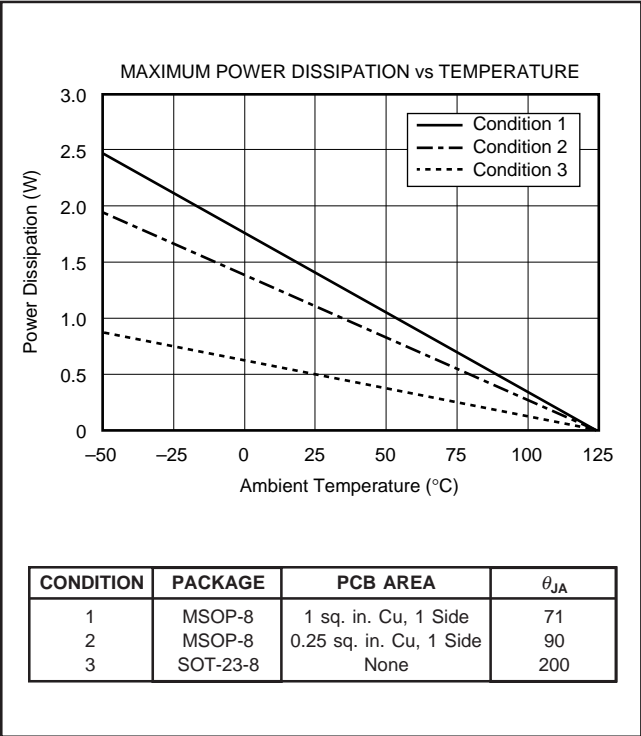
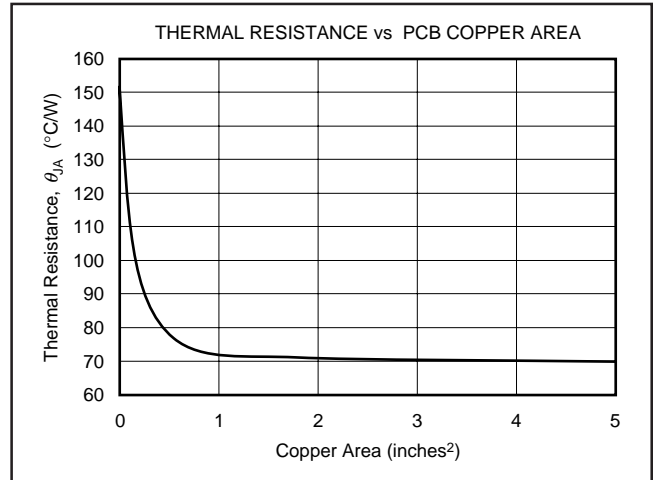

FIGURE 6. Maximum Power Dissipation versus Ambient Temperature for the Various Packages and PCB Heat Sink Configurations.
FIGURE 7. Thermal Resistance versus PCB Area for the MSOP-8.
- NOTES: (1) The REG113 does not require a minimum output capacitor for stability. However, transient response can be improved with proper capacitor selection.
(2) Dropout voltage is defined as the input voltage minus the output voltage that produces a 2% change in the output voltage from the value at  $V_{IN} = V_{OUT} + 1\text{V}$  at fixed load.
(3) Current limit is the output current that produces a 10% change in output voltage from  $V_{IN} = V_{OUT} + 1\text{V}$  and  $I_{OUT} = 5\text{mA}$ .
(4) For  $V_{ENABLE} > 6.5\text{V}$ , see typical characteristic  $I_{ENABLE}$  vs  $V_{ENABLE}$ .
(5) The REG113 no longer regulates when  $V_{IN} < V_{OUT} + V_{DROP(MAX)}$ . In dropout, the impedance from  $V_{IN}$  to  $V_{OUT}$  is typically less than  $1\Omega$  at  $T_J = +25^{\circ}\text{C}$ .
(6) See Figure 7.
The REG113 is available in two different package configurations. The ability to remove heat from the die is different for each package type and, therefore, presents different considerations in the printed circuit board (PCB) layout. On the MSOP-8 package, leads 5 through 8 are fused to the lead frame and may be used to improve the thermal performance of the package. The PCB area around the device that is free of other components moves the heat from the device to the ambient air. Although it is difficult or impossible to quantify all of the variables in a thermal design of this type, performance data for several simplified configurations are shown in Figure 6. In all cases the PCB copper area is bare copper, free of solder resist mask, and not solder plated. All examples are for 1-ounce copper and in the case of the MSOP-8, the copper area is connected to fused leads 5 to 8. See Figure 7 for thermal resistance for varying areas of copper. Using heavier copper can increase the effectiveness in removing the heat from the device. In those examples where there is copper on both sides of the PCB, no connection has been provided between the two sides. The addition of plated through holes will improve the heat sink effectiveness.